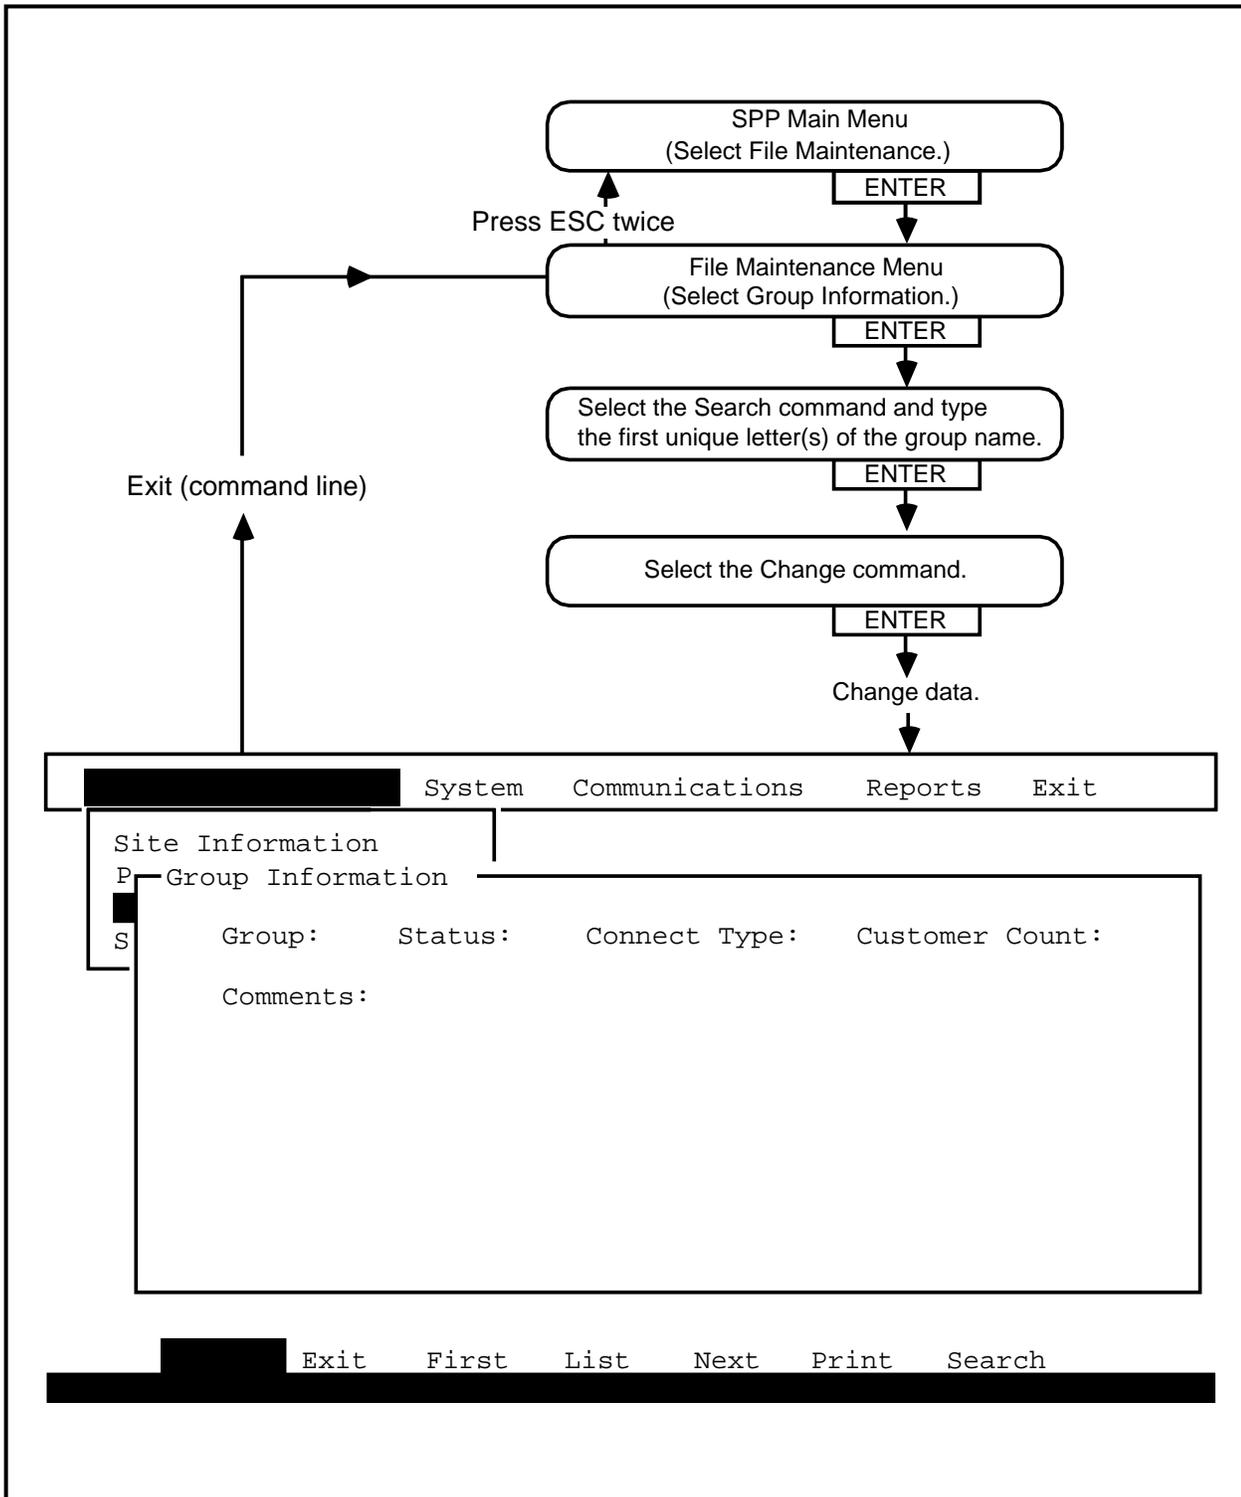

Fig. 3-8
3.25 To change a group information record (see also Fig. 3-8), proceed as follows: